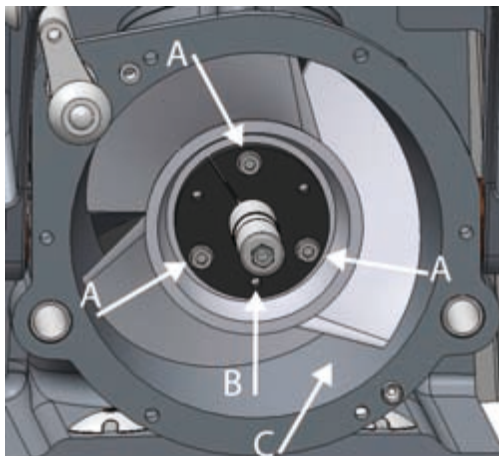
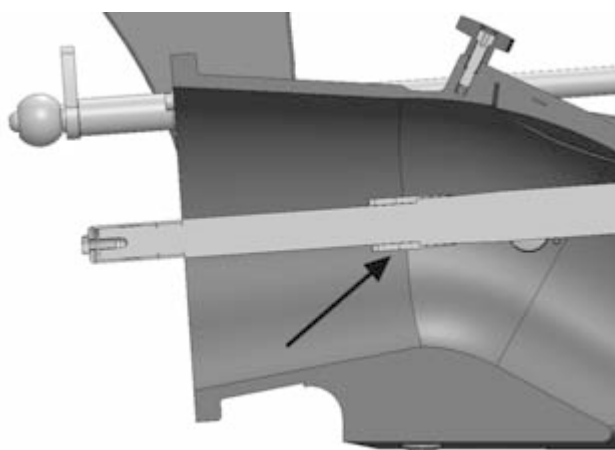

Figure 30. Impeller fastening screws
Figure 32. Adjuster sleeve
4. Loosen the impeller fastening screws (Figure 30, point A).
5. Remove one screw completely and screw it into the threaded hole in the plastic mounting cone (Figure 30, point B).
The thrust caused by the impeller is transmitted through the adjuster sleeve to the shaft (Figure 32). The sleeve consists of rings of different thickness. The length of the sleeve can be adjusted in 0.5 mm (approx. 0.02") increments by changing the number of the rings. This way the impeller gap on the outer race (Figure 30, point C) becomes fit.